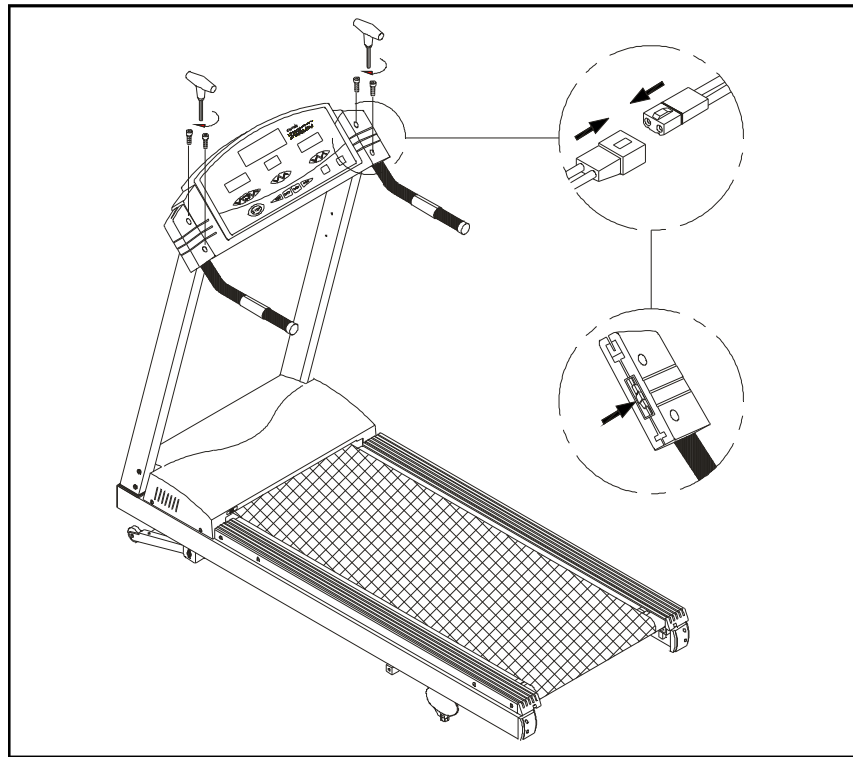

Fig.3
5. Tightly connect the terminals of two wires between electronics package and handlebar bracket. Insert terminals back into handlebars bracket. (see Fig. 3).